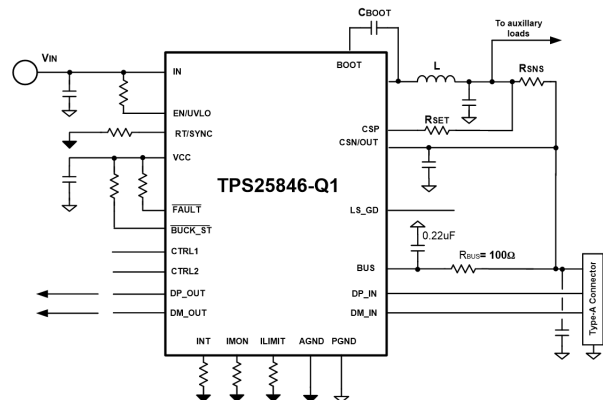

Figure 10-15. Buck Average Current Limit
- Buck Average Current Limit Figure 10-15: